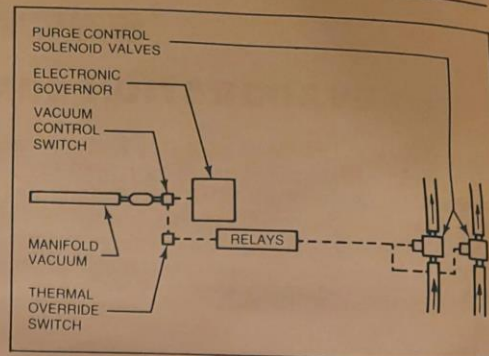
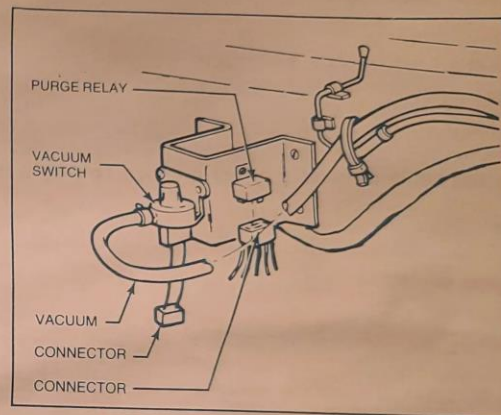
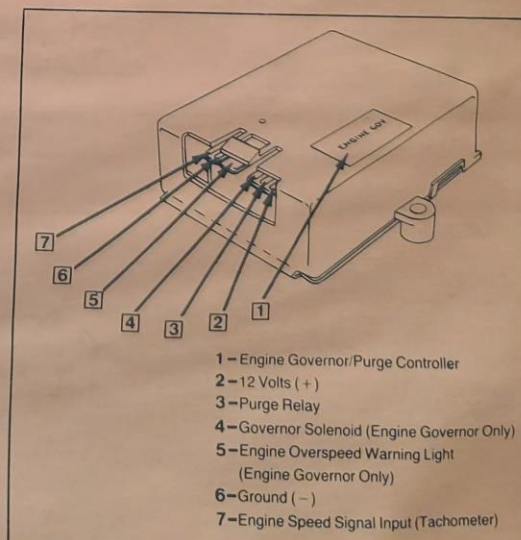

Figure 4-2. Purge Control Schematic
Figure 4-3. Vacuum Switch and Relay
Figure 4-4. Governor/Purge Controller Module
The purge control system controls the release of vapors from the canisters according to engine speed, engine temperature and intake manifold vacuum. Two purge control solenoid valves (Fig. 4-2) are open when the relays (Fig. 4-3) are energized by a signal from the governor (Fig. 4-4). A vacuum control switch and a thermal override switch must **both** be closed to get the "signal" to the relay coil.
The vacuum switch is mounted on the right front side of the cowl (Fig. 4-3). It is controlled by manifold vacuum so that it closes with the engine running.
The relays are mounted next to the vacuum switch (Fig. 4-3). Their coils are connected through the two switches to the governor. When they are energized, they power the purge control valve solenoids.
The engine governor/purge controller (Fig. 4-4) is a solid state electronic control. It uses the "tachometer" signal (7) from the HEI ignition to measure engine speed.
- On initial start-up, the governor sends a 12-volt signal to the purge relay coils (3) when the engine speed gets up to 2250 RPM.
Refer to Fig. 4-4 for terminal locations.